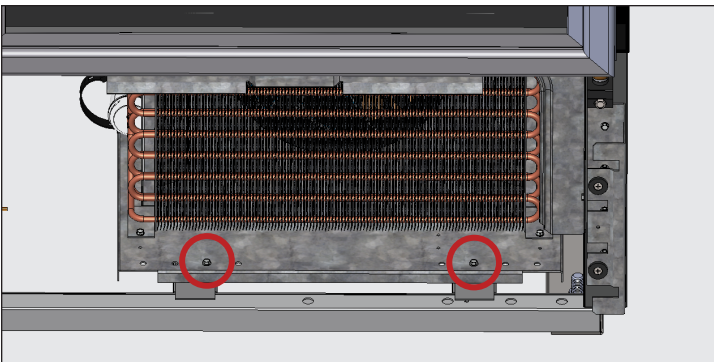

Fig. 5. Condenser base bolt locations.
5. Remove the condenser base bolts. See fig. 5.